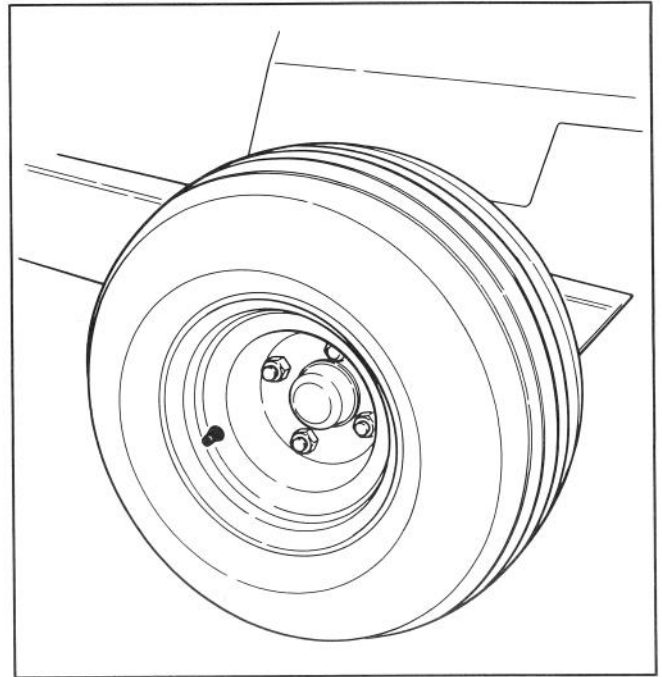

Figure 9
1. Secure wheels to spindle hubs with lug nuts (Fig. 9). Torque nuts to 65-90 ft-lb.